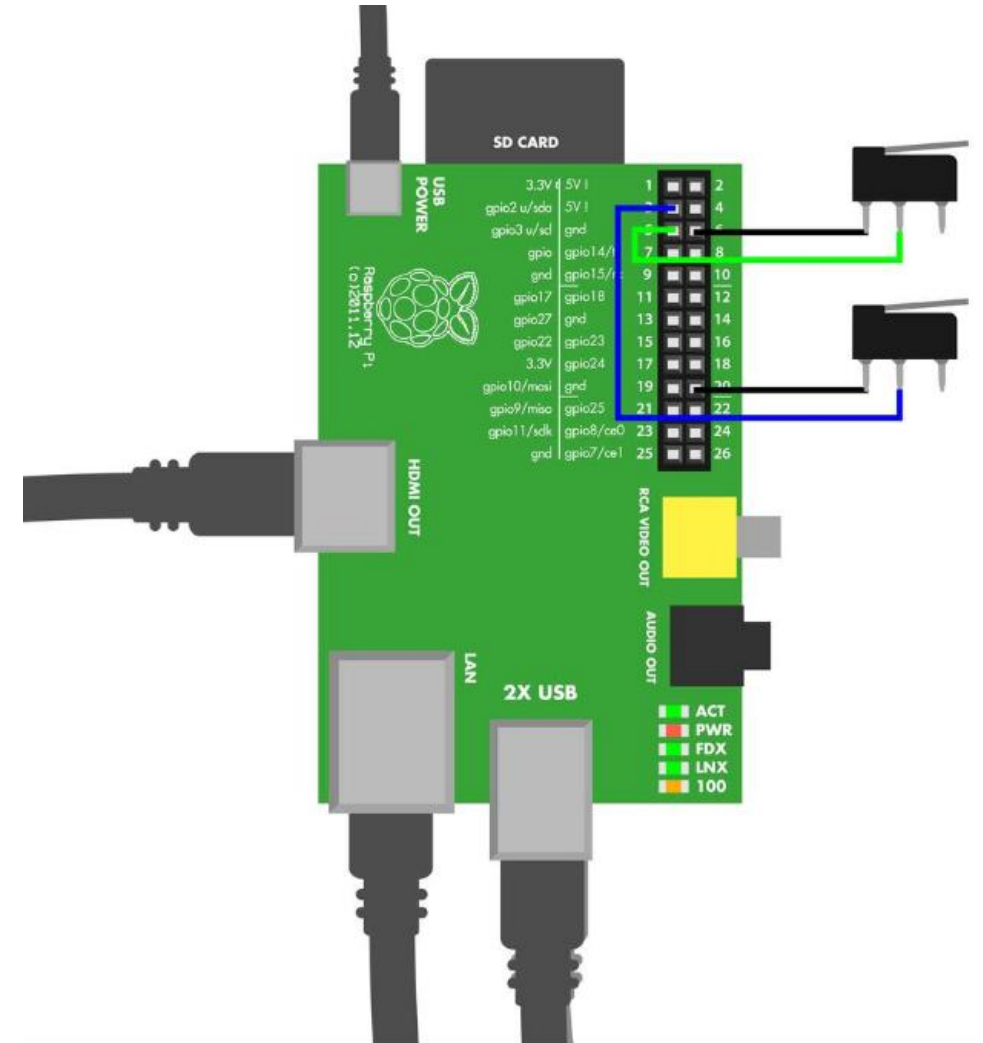

Figure 6-21. Pong connection for Raspberry Pi
- Figure 6-21 shows the wiring diagram for the Pong project. Wire it up as shown, and then run the program shown in Example 6-12.